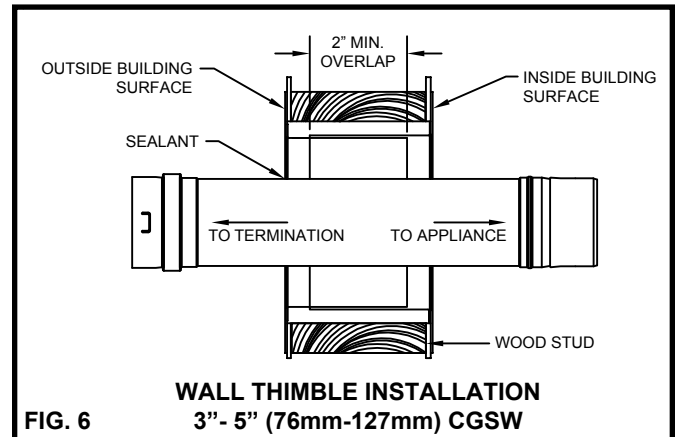

FIG. 6
6. Once the Thimble is installed, Corr/Guard vent pipe can be inserted into the Thimble. For 3" - 5" diameter Corr/Guard insert the male end first. (See **FIG. 6, 7 & 8**).